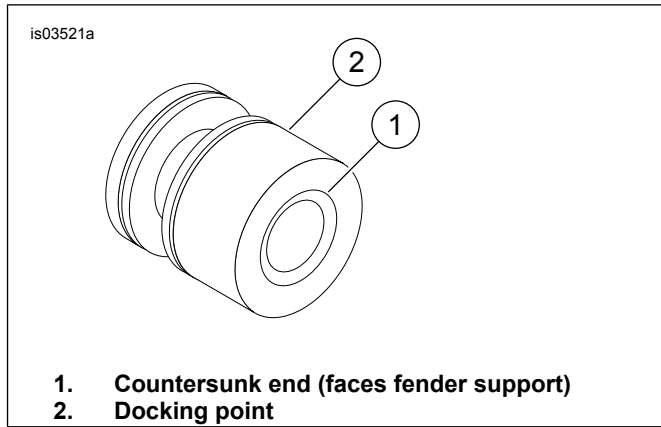
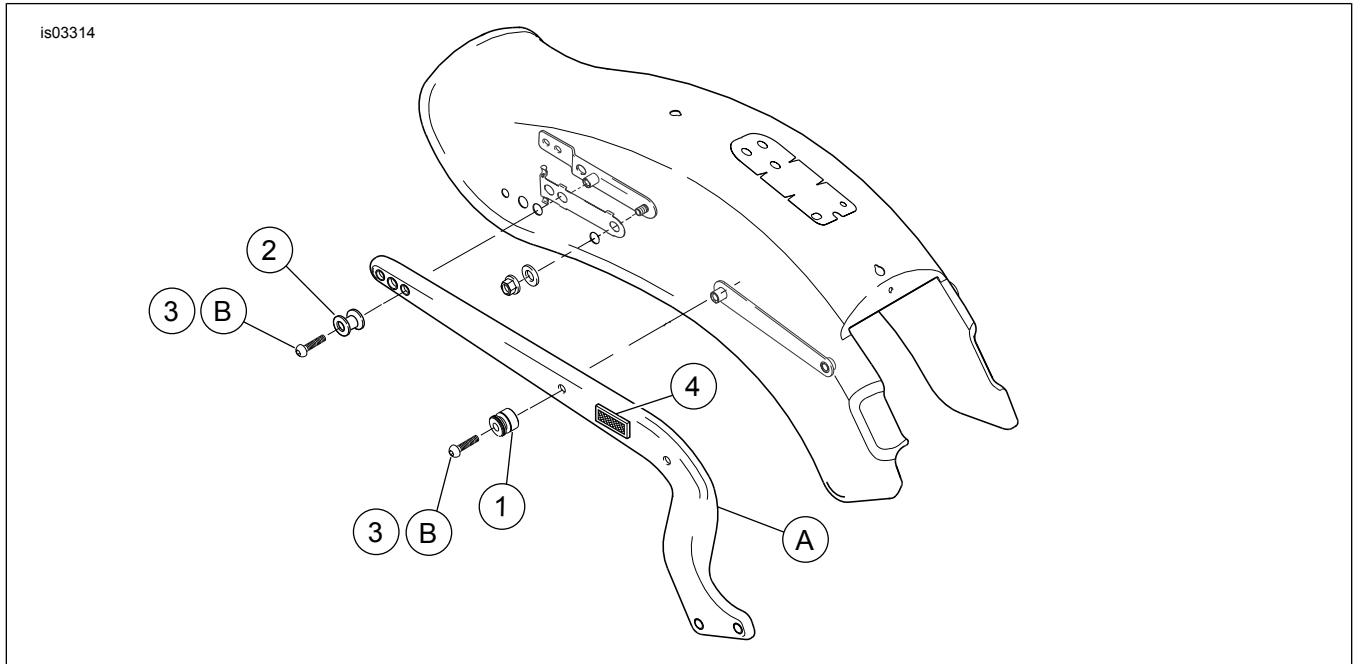

Figure 3. Docking Point
Figure 4. Service Parts: Softtail Docking Hardware Without Saddlebag Supports (FXST Shown)
See Figure 4 and Table 1.
8. See Figure 4. Install front and rear docking points (1, 2). For each docking point, place countersunk side of docking point towards fender support cover (Figure 3, Item 1).
10. Thread screws (3) through front and rear docking points and into fender and bracket (underneath fender). Tighten screws to 21-27 ft-lbs (28-37 Nm).